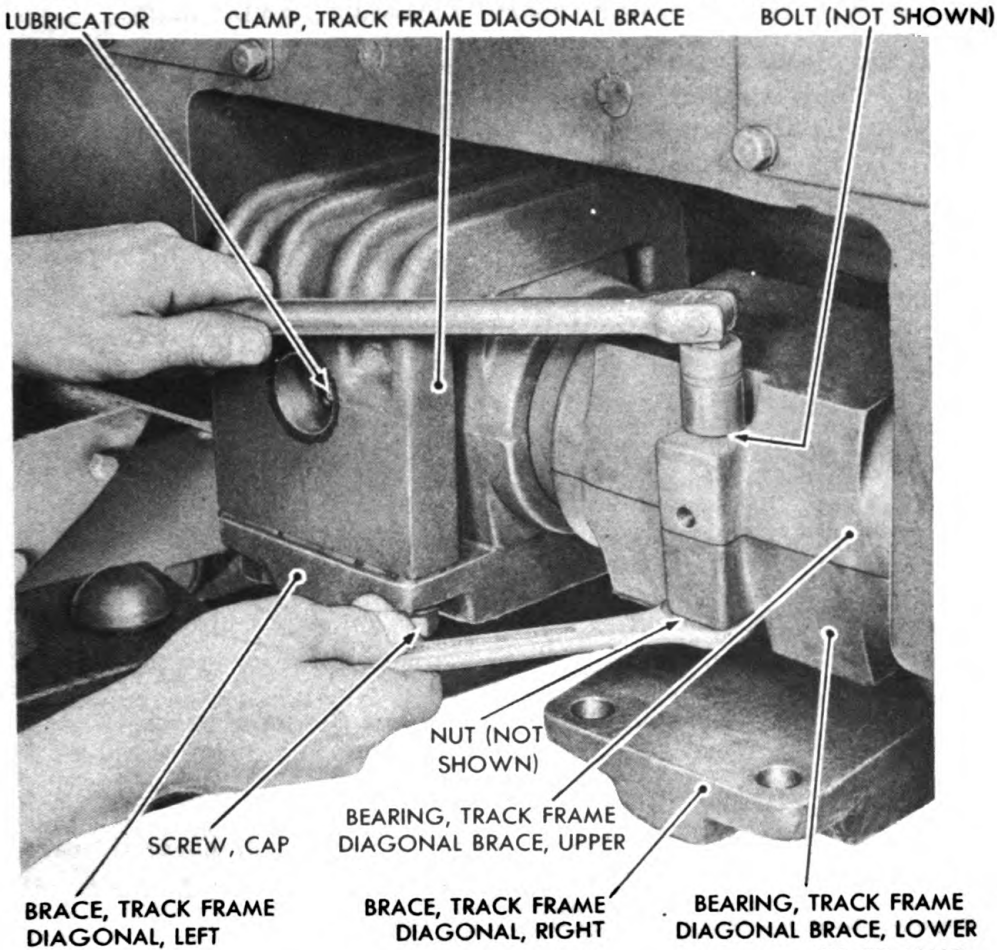

Figure 175 — Track Frame Diagonal Brace Bearings Removal
(2) REMOVE UPPER AND LOWER TRACK FRAME DIAGONAL BRACE BEARINGS (figs. 175 and 176).
(1) **INSTALL RIGHT UPPER AND LOWER TRACK FRAME DIAGONAL BRACE BEARINGS** (figs. 175 and 176). **NOTE:** If diagonal brace only has been removed, this step should be eliminated.
(2) **INSTALL TRACK FRAME DIAGONAL BRACE CLAMP** (fig. 175).
(3) **INSTALL LUBRICATOR** (fig. 175).